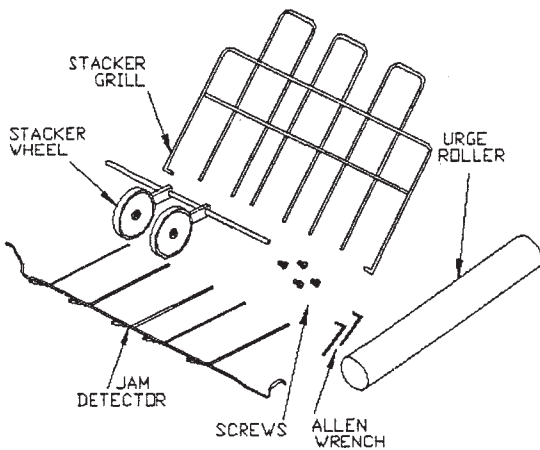

FIG 1
1. Remove the contents of the accessory box and compare them against the photograph below. (Fig. 1)